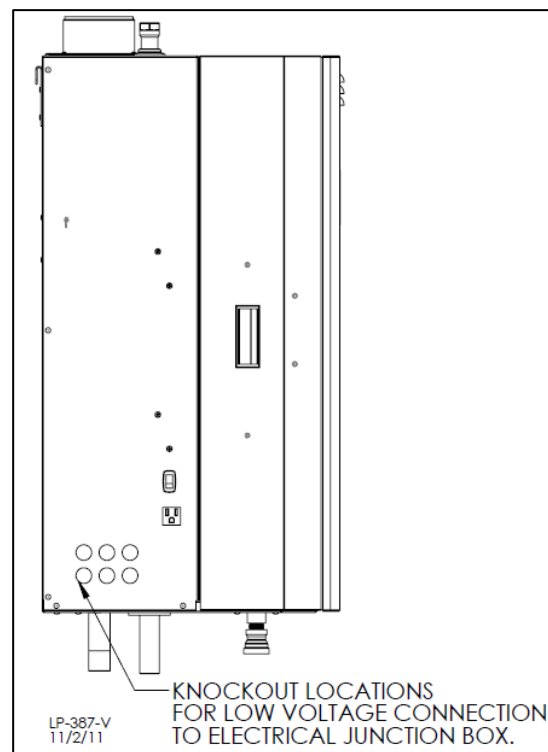

Figure 28 – Knockout Locations
All connections made to the boiler in the field are done inside the electrical junction box located on the left side of the boiler. Multiple knockout locations are available to route field wires into and out of the electrical junction box. See Figure 28.
1. All low voltage cables should enter the electrical junction box through the provided knock out holes as shown in Figure 28.